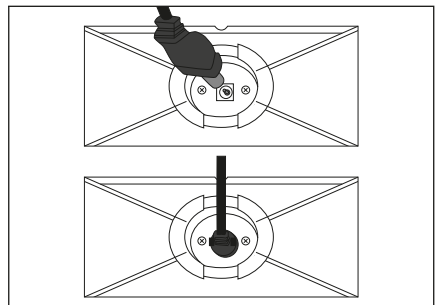

Fig. 5
- 2) Plug the barrel plug 11 of the power adapter 10 into the connection on the bottom of the appliance cradle 17. Guide the cable of the power adapter 10 through the opening on the rear of the charging station 15 (see Fig. 5).